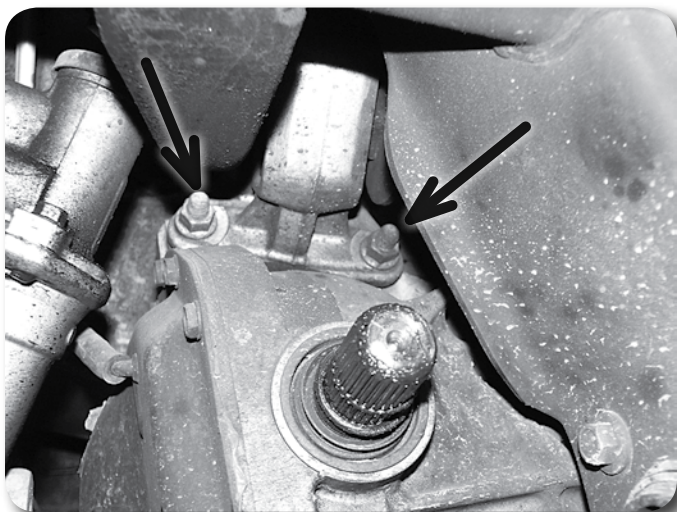
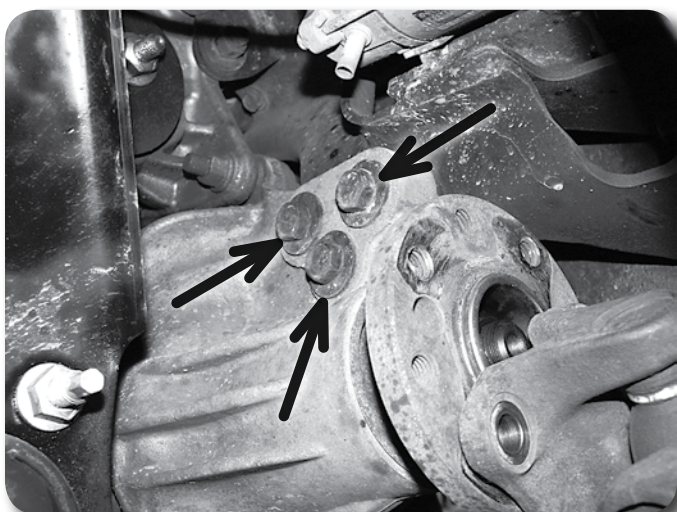
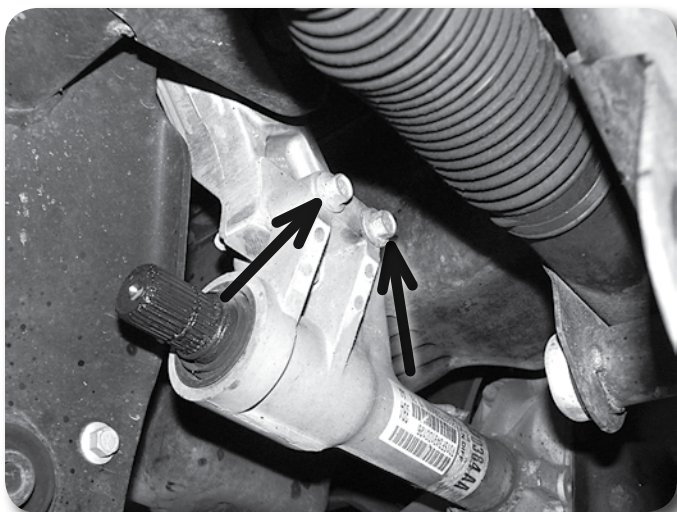

Figure 13
Figure 14
Figure 15
26. Using a jack, support the differential. Loosen and remove the two forward-most differential mounting bolts on the driver's side **Figure 13**. Loosen but do not remove the three rear driver's side bolts **Figure 14** and the two passenger's side bolts **Figure 15**.